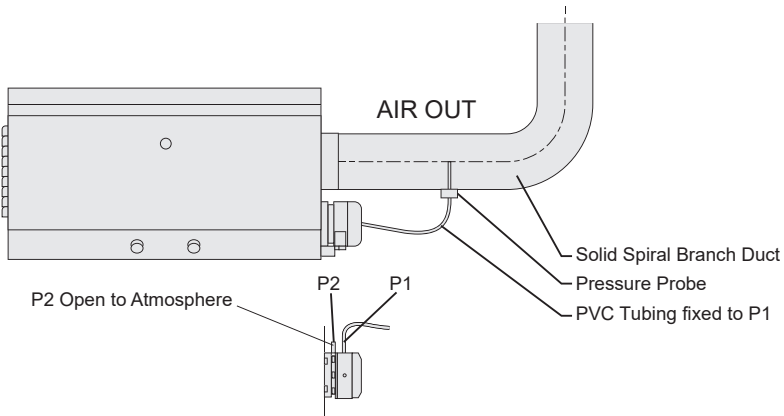

Figure 19 - Connecting the Air Flow Sensor's Pressure Probe
3. Connect the Pressure Probe via the PVC tube to Port P1 on the Air Flow Sensor, leaving Port P2 unused and open to the atmosphere (see Figure 19 below):